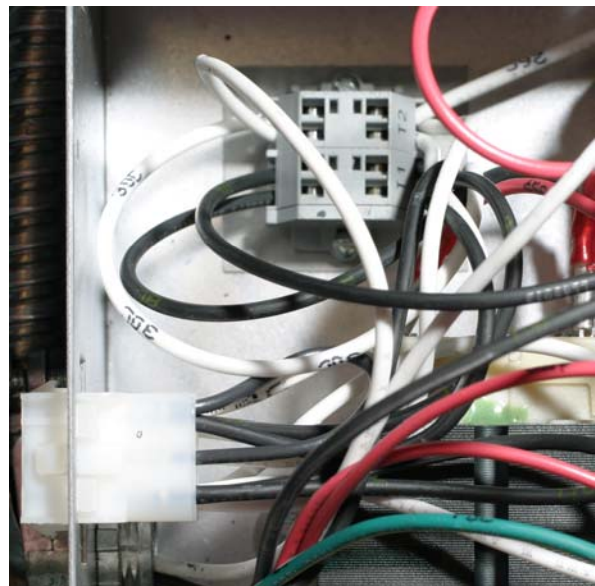

Figure 2: Wires are routed from the terminal block (shown above) to pins 2 and 8 of the plug.
4. Attach the provided wires in the following manner: Wire 1C is routed from T1 to Pin 2. Wire 2C is routed from T2 to Pin 8. **See Figure 2** and the wiring diagram, **Figure 6.**